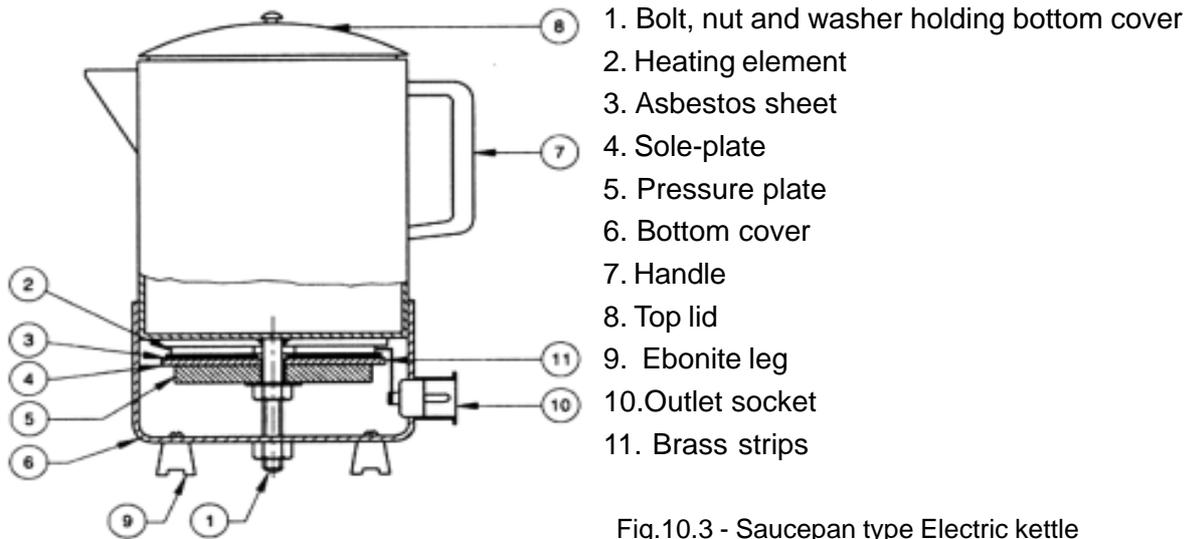

Fig.10.3 - Saucepan type Electric kettle
**Saucepan type:** The heating element in this type is wound around a flat mica sheet as in iron box. Here the heating element is placed in separate room i.e. outside bottom part of the heater body and is covered by bottom cover. The construction of saucepan type is shown in Fig. 10.3